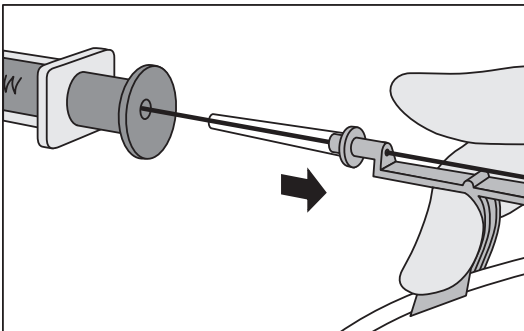

Figure 6
- Raise thumb and pull Arrow Advancer™ approximately 4 - 8 cm away from Arrow® Raulerson Syringe or introducer needle. Lower thumb onto Arrow Advancer™ and while maintaining a firm grip on SWG, push assembly into syringe barrel to further advance SWG. Continue until SWG reaches desired depth (refer to Figure 6).